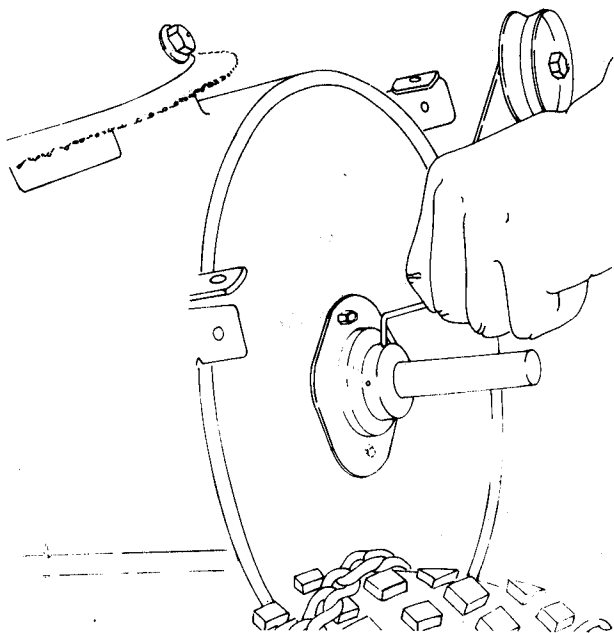
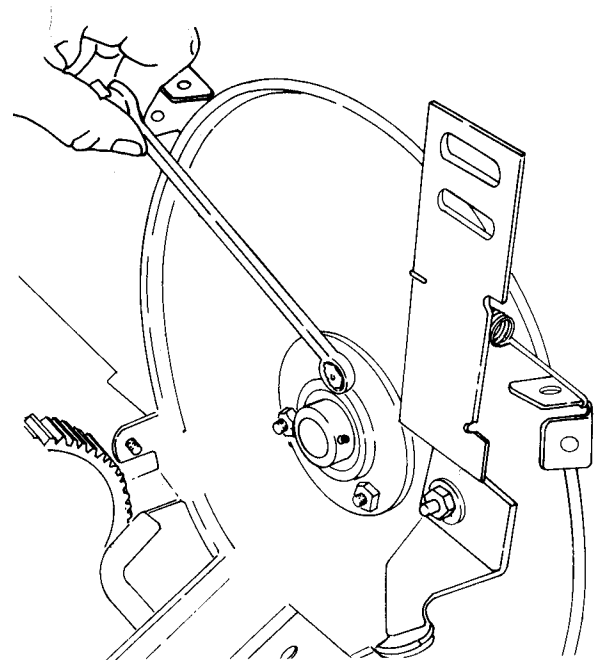

FIGURE 3.10 — REMOVING BEARING SETSCREWS
FIGURE 3.11 — REMOVING BEARING FLANGE NUTS
STEP 3. Loosen the setscrews on the housing bearing to allow pulling the impeller shaft out of the housing (figure 3.10). Replace the housing bearing if in bad condition at this point. To replace, remove the three flange nuts from the bearing housings then slide the bearing off and install replacement. The blower belt idler can also be replaced, if needed, at this time (figure 3.11).